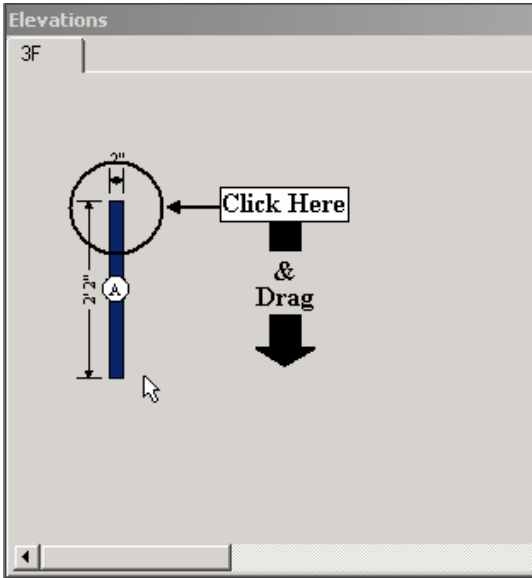

Figure 7
- 1. Let's begin by creating a vertical frame member. Click somewhere on the drawing surface (the area under the tab). While holding the mouse button down, drag the mouse towards the bottom of the drawing surface like Figure 7. Now, let go of the mouse button to complete the drawing of the frame. At this point, the frame doesn't need to be a specific length.